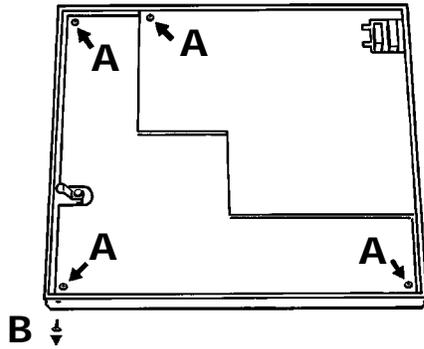

Figure C2.2a Inner cover securing screws
- Release the door inner cover by undoing and removing the fixing screws ('A' in figure C2.2a). Remove the plastic door guide ('B') and keep safely for later re-assembly.